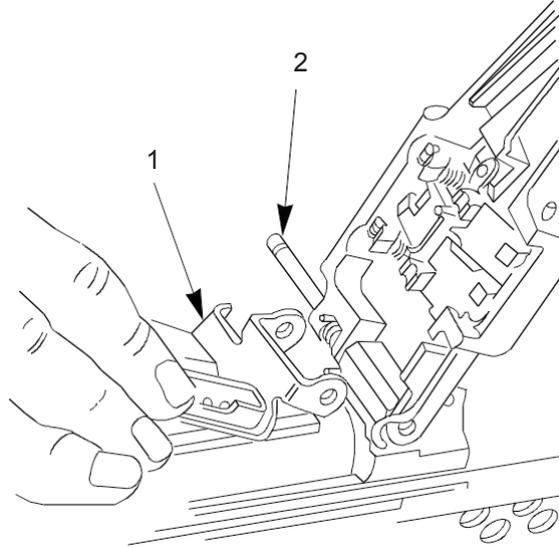

Figure 2. Feed Tray, Headless Pin.
2. Push out headless pin (Figure 2, Item 2). Slide feed tray (Figure 2, Item 1) rearward and remove.